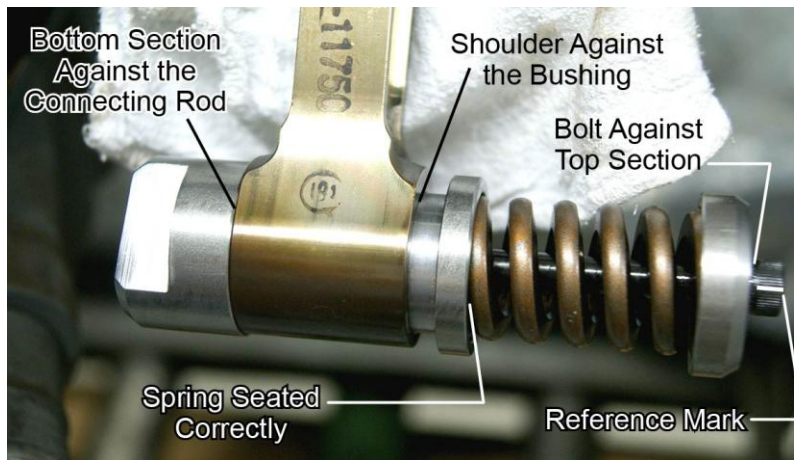
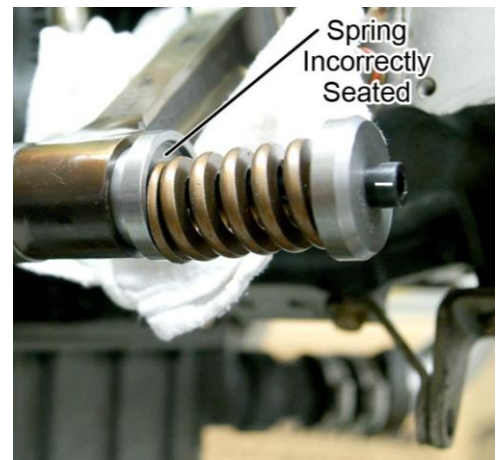

Figure 7
Figure 8
- The spring is seated correctly in the tool as shown in Figure 7. Figure 8 shows **incorrect** seating of the spring.
7. Use a marker to make a reference mark on the bolt head (Figure 7) to ensure an accurate count of the required number of turns during the procedure.